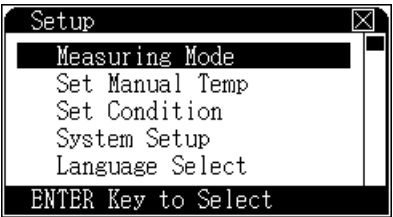

Figure 11 The setup screen
- 1 From the initial state, press [**Setup**]. The setup screen appears. See Figure 11.
- 1 From the initial state, press [**Setup**]. The setup screen appears. See Figure 11 on page 26.